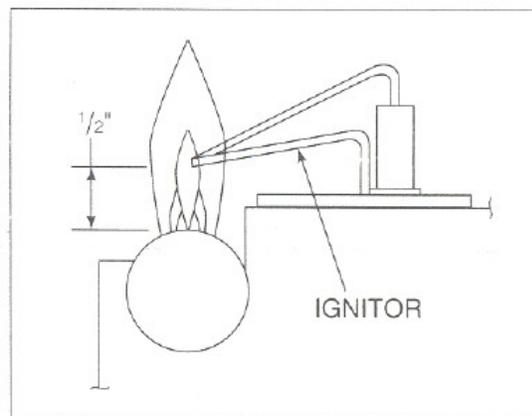

Figure 12A
- Visually check the flame of the burner periodically, making sure the flames are steady; not lifting or floating. The flame color should be blue with yellow tips. The ignitor (electronic) or thermopile (standing pilot) tips should be covered with flame. See Figures 12A or B and 13.